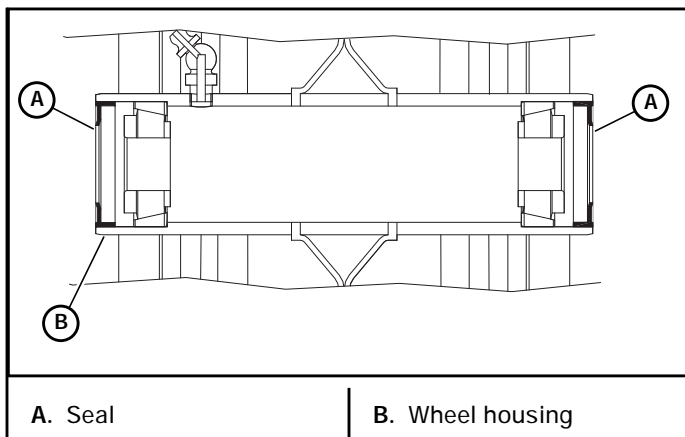

Figure 4-21
3. Insert the new tapered roller bearings into the outer bearing race. Figure 4-21
4. Insert the new seals into the wheel housing. Make sure that the flat side of the seal is flush with the outside edge of the wheel housing. Figure 4-21